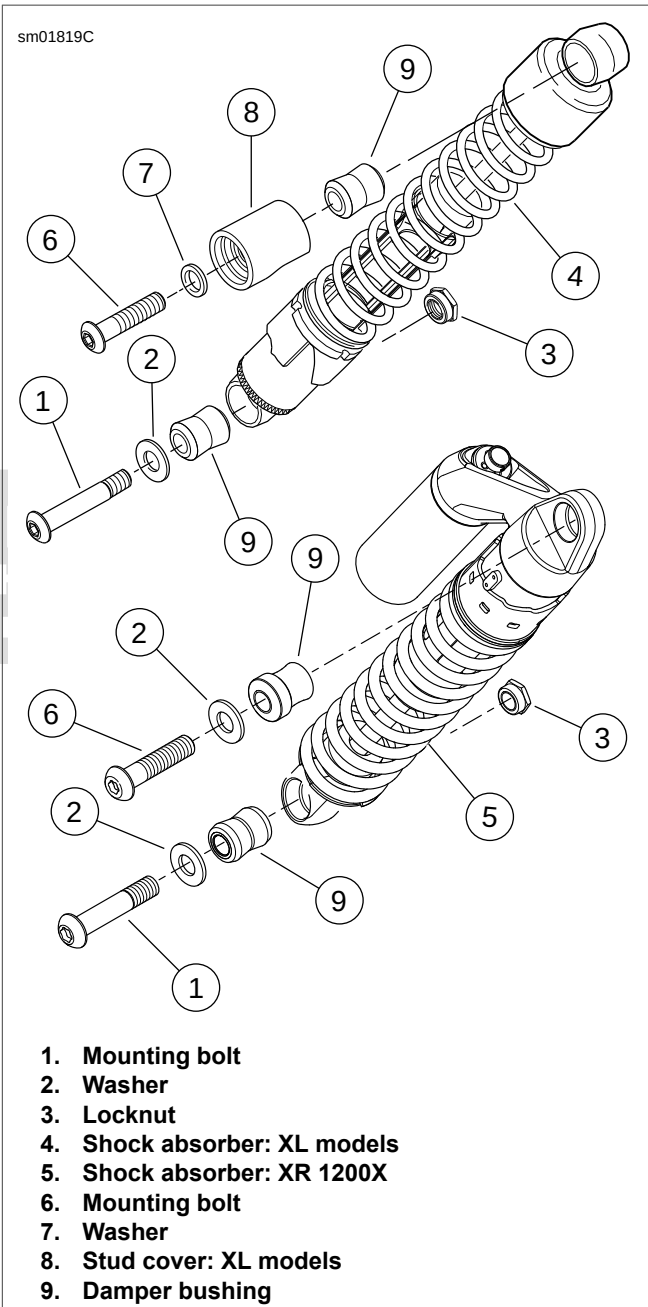

Figure 2-165. Shock Absorbers: All Models
2. See Figure 2-165. Remove fastener (1), washer (2) and locknut (3) from bottom end of the shock absorber (4 or 5).
3. Remove the fastener (6) and washer (7 or 2) from top end of shock absorber.
4. **XL Models:** Remove the stud cover (8).
1. See Figure 2-165. Assemble the upper fastener stack.
- a. **XL Models:** Assemble the upper fastener (6), the washer (7) and the stud cover (8).
- b. **XR 1200X:** Assemble the upper fastener (6) and the washer (2).
3. Position bottom end of shock absorber against outboard side of rear fork mount. Insert mounting bolt (1) and washer (2) through the damper bushing (9) and the rear fork mount.
4. Thread on the locknut (3).